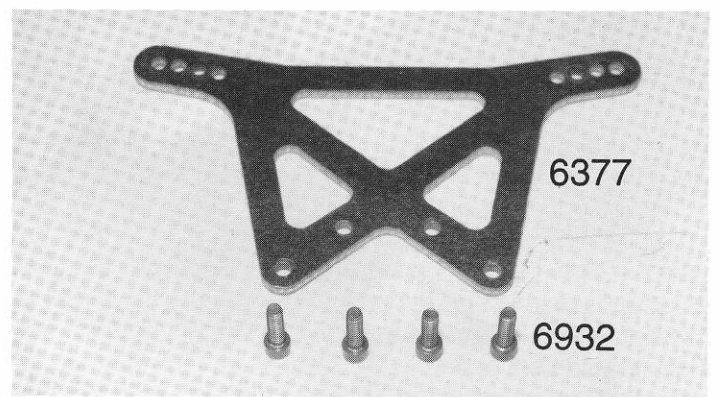
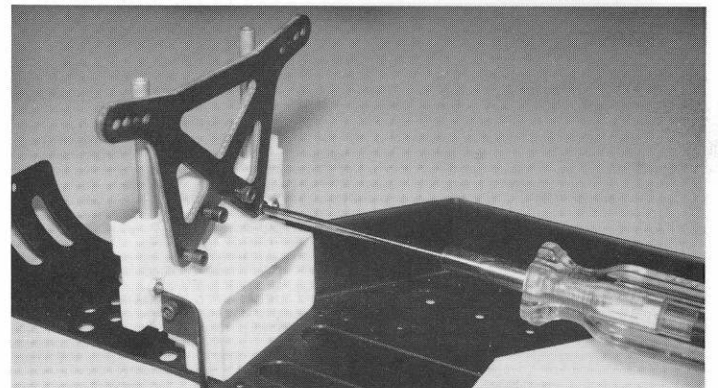

Fig. 83
Fig. 84
□ **Figs. 83 & 84** In bag #6-4 you will find the #6377 graphite rear shock strut and four #6932 4-40 x 5/16" SHCScrews. Mount the rear shock strut to the front of the rear bulkhead using the four screws, as shown in fig. 84.